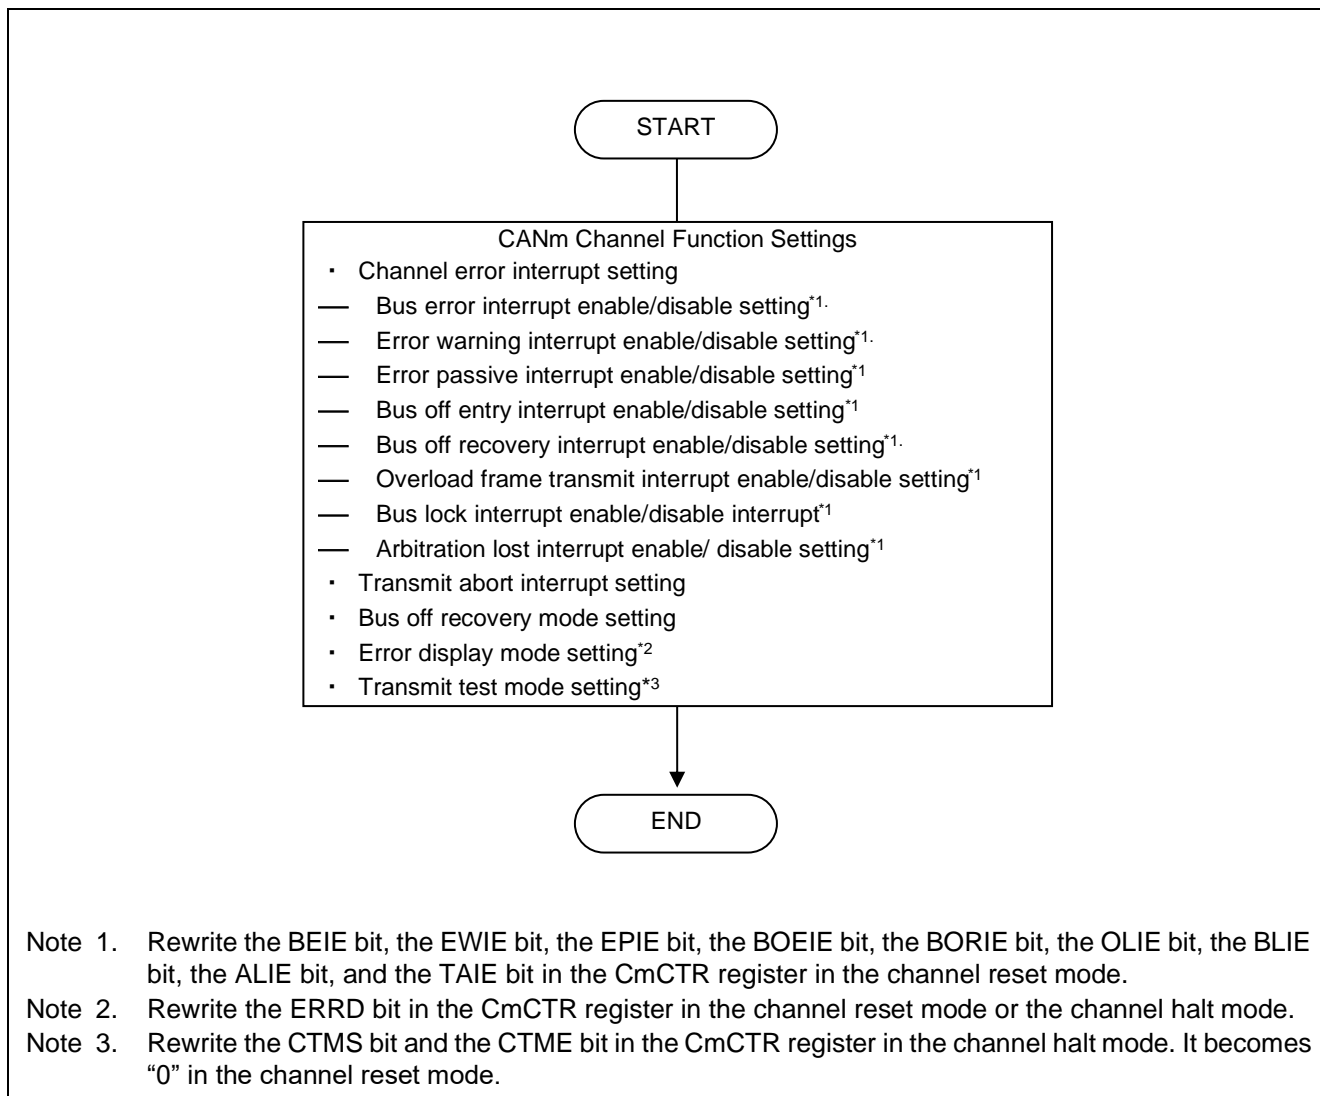

Figure 8-6 Setting Procedure of Channel Function
**Figure 8-6** shows the channel function procedure.